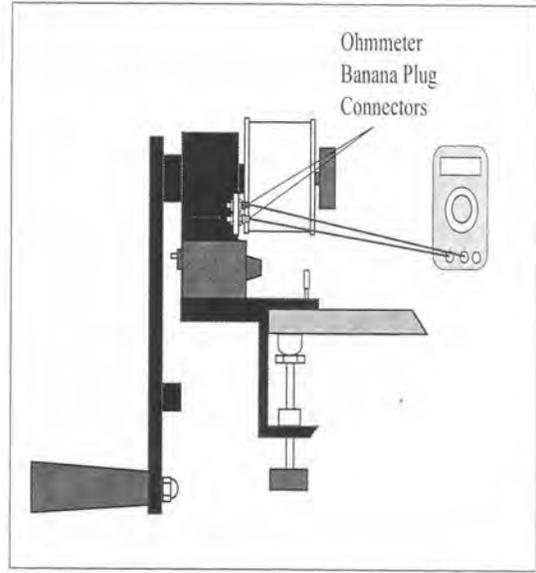

Figure 5.2
9. Use the banana-plug connectors to attach the ohmmeter (see Figs. 5.2 and 5.4), and set it to the 200 k Ω setting or similar resistive range. Your apparatus is ready to go! Some tips about setting up multimeters are provided at the end of the instructions.